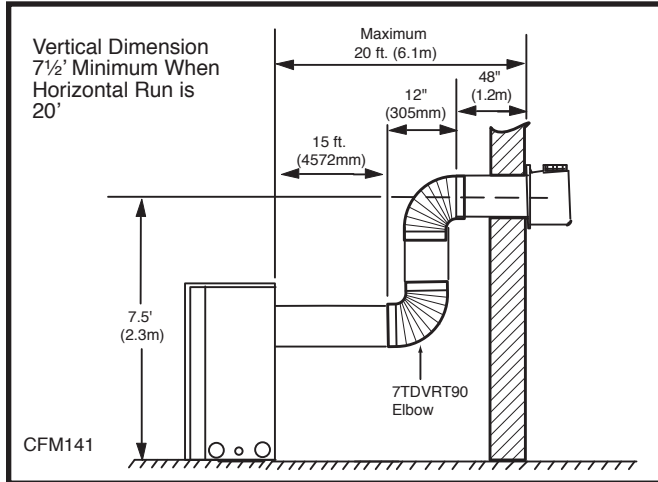

Fig. 21 Maximum number of 90° elbows is three (3).
- The maximum horizontal vent run is 20 ft. (6.1m) when the vertical vent rise is 7½ ft. (2.3m). (Fig. 21)
- The maximum number of 90° elbows per side wall installation is three (3).